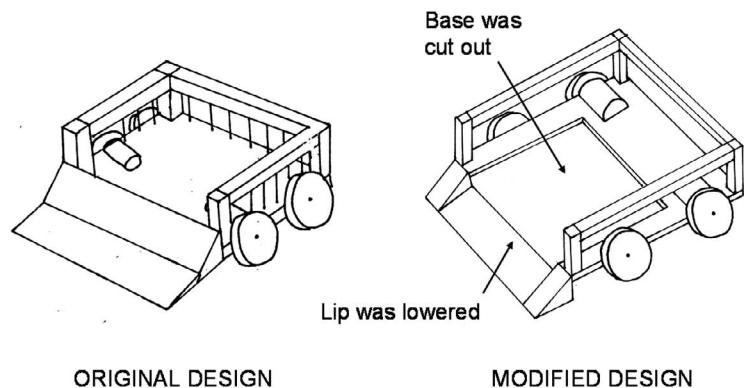

Figure 9
As you may recall, the “Wedge” (shown on the left in Figure 9) was selected as the final concept. The original wedge design was dual purpose: (1) to lift and push the opponent’s machine and (2) to allow balls to roll up into the holding bin above the moving platform.
There were concerns that the forward speed of the vehicle might not be sufficient to allow the balls to roll up high enough into the bin. Experiments (see Figure 10) were conducted to check this out. Results showed that the concerns were justified. Acceptable dimensions for the wedge and holding bin were established based on the results of the experiments. The modified concept is shown on the right in Figure 9.